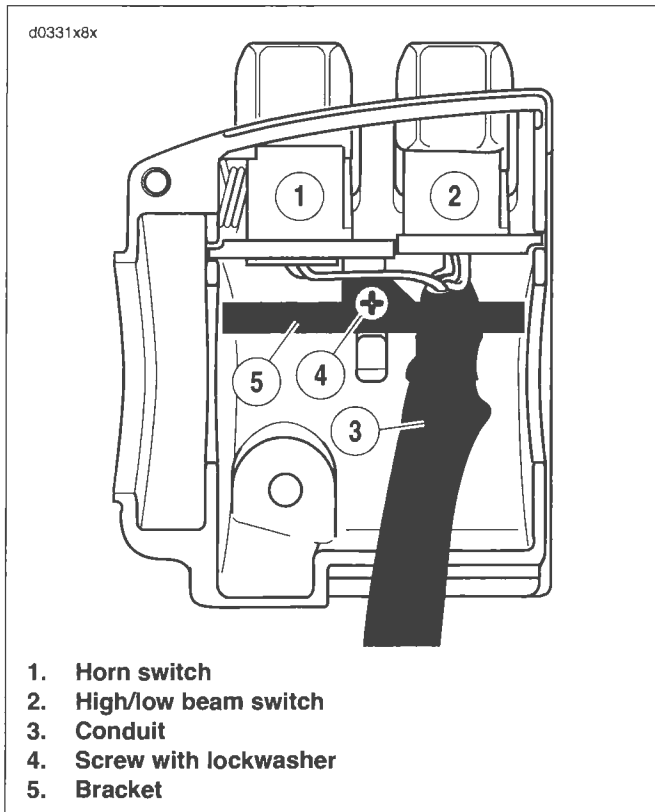
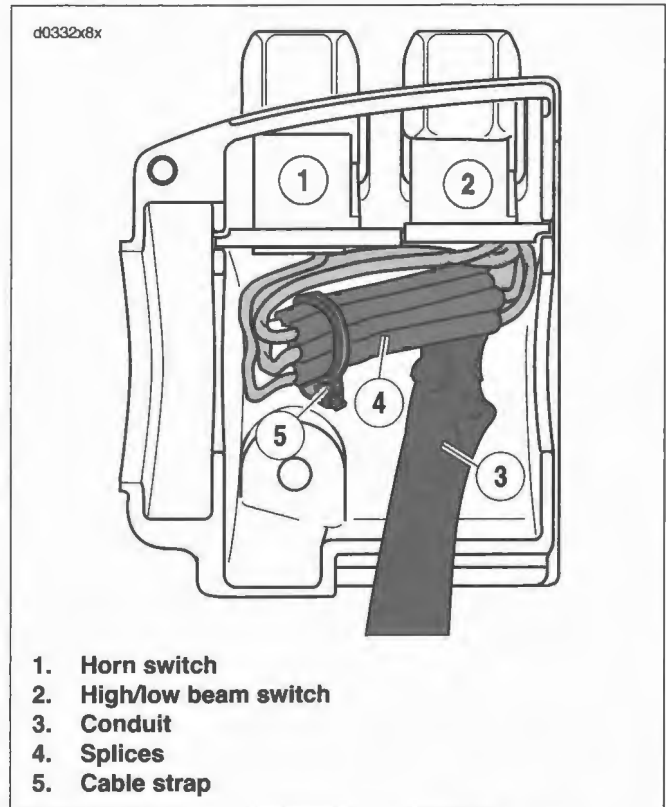

Figure 8-108. Upper Housing Without Splices
Figure 8-109. Upper Housing With Splices
1. See Figure 8-108. From inside the switch housing, remove the screw with lockwasher (4) to release the bracket (5). Remove bracket and switch assembly from the housing.
2. Move cable conduit (3) from beneath wing of bracket. Cut wires 0.25 in. (6.4 mm) from old switches (1, 2). Discard old switch and bracket assembly.
6. Loop switch wires so that spliced lengths are positioned as shown in Figure 8-109. Route wires downstream of splices beneath wing on high/low beam switch side of bracket as seen in Figure 8-108.
7. See Figure 8-109. Install a **new** 7.0 in. (177.8 mm) cable strap (5) beneath wing on horn switch side (1) of bracket and capture wire splices (4).
9. See Figure 8-108. Install screw and lockwasher (4) to secure bracket (5) inside housing. Verify that wing on high/low switch (2) side of bracket captures edge of conduit (3) as shown.